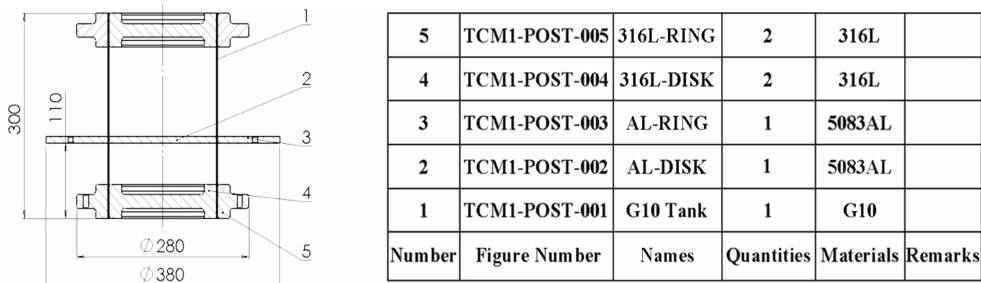

Fig. 1 The details of Cryomodule II POST.
Post of Cryomodule(CM) is a component of low thermal conductivity, and used to hang the cold mass of Cryomodule. Fig.1 shows the details of Cryomodule II POST.